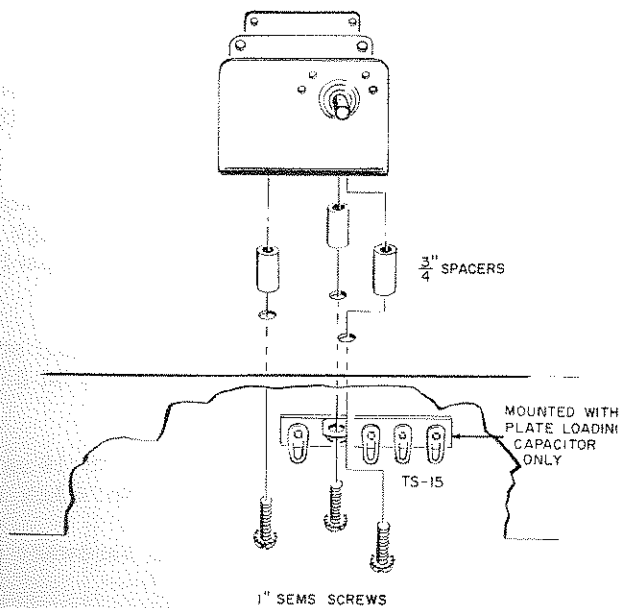

Figure 9. Mounting of Plate Tuning and Plate Loading Capacitor.
- Slip the spacers over the screws, and thread the screws into the three tapped holes on the bottom of the capacitor as shown in Figure 9 and Pictorial 3 (do not use terminal strip). Before tightening the screws be certain that the front edge of the capacitor is parallel with the front edge of the chassis.
- a) Insert two No. 6 x 1" sems screws through holes 40 and 41. Slip a 3/4" spacer over each screw and thread the screws lightly into the tapped holes in the bottom of the capacitor frame (see Figure 9). Do not tighten.